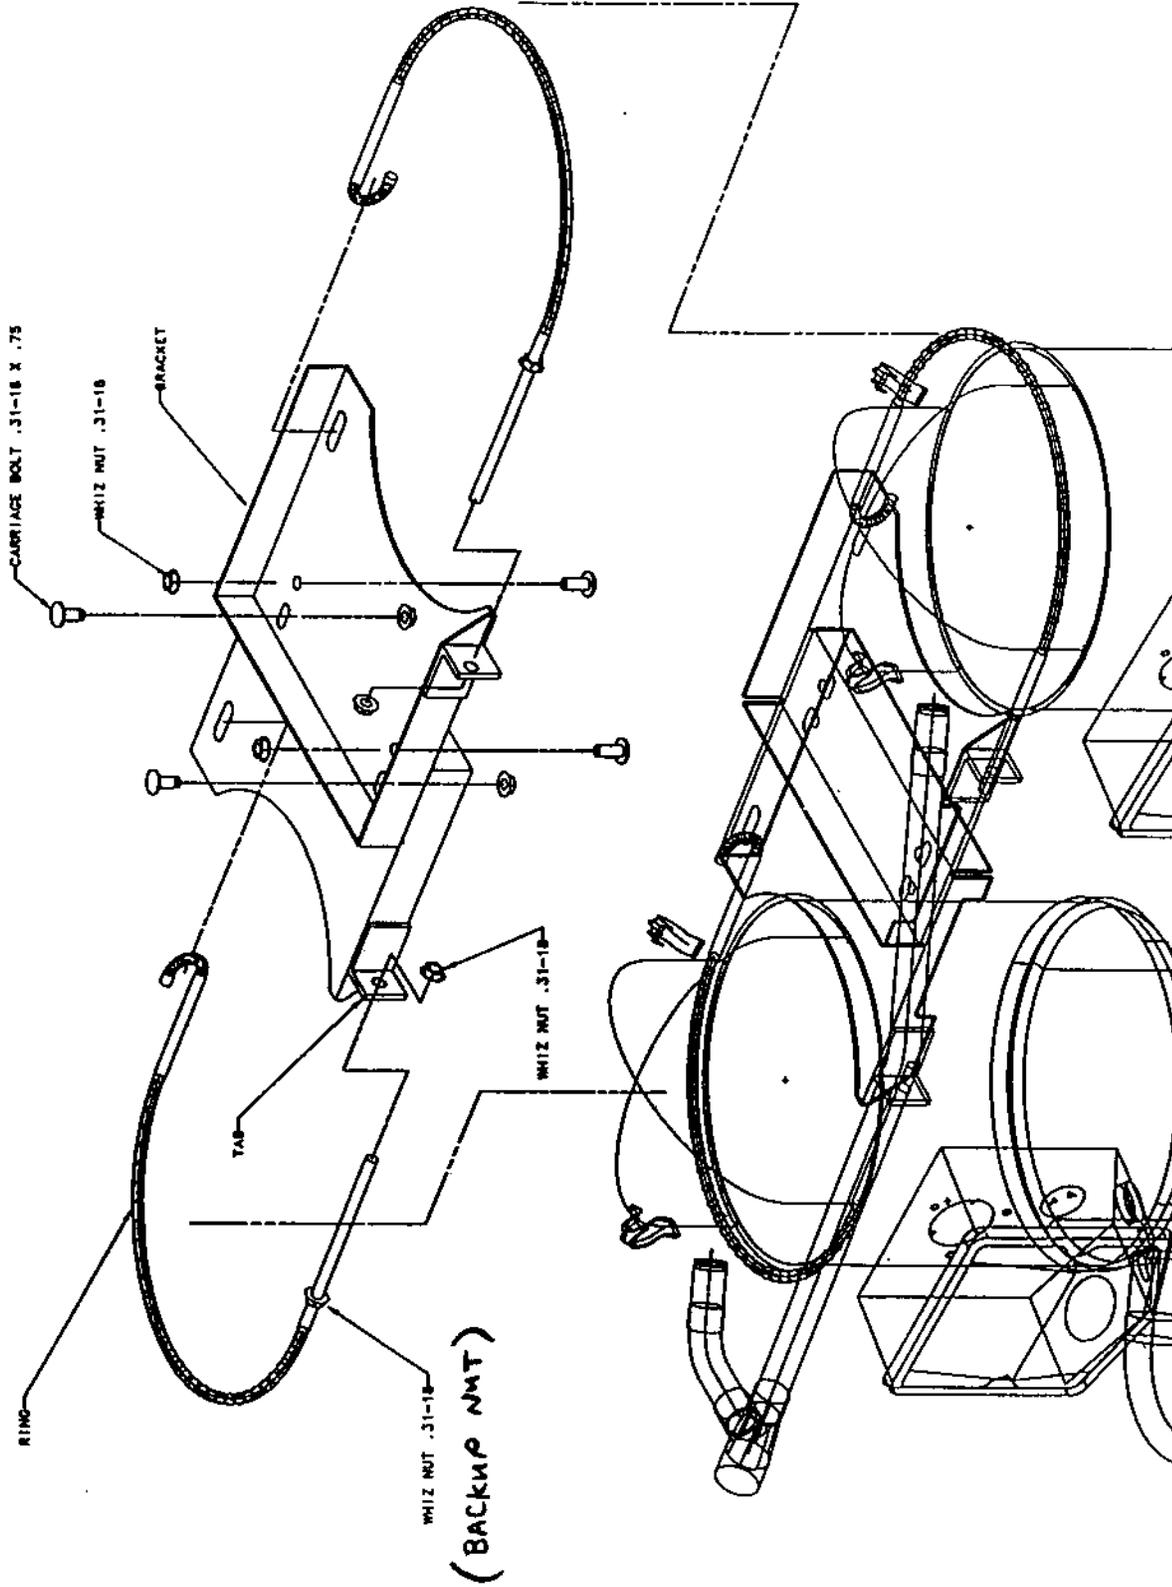

FIGURE 1
(1) Check for field or factory installed compressor restraint bracket or plate.
- (a) If brackets are installed, make sure they are correctly installed. Refer to Figure 1. Particular items to check include:
- all (4) bolts are installed